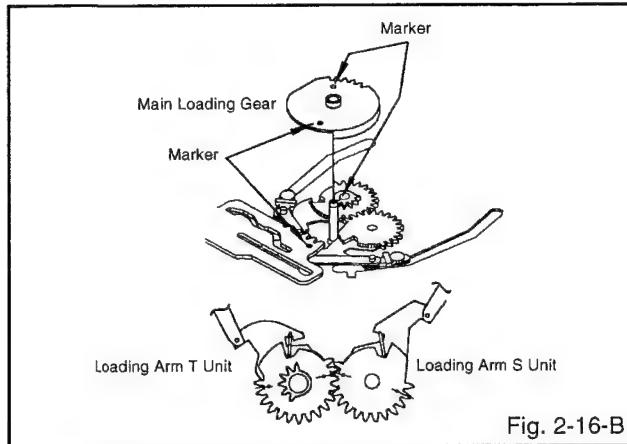

Fig. 2-16-B
2-16: LOADING GEAR S/T UNIT (Refer to Fig. 2-16-A)
- When you install the Loading Arm S Unit, Loading Arm T Unit and Main Loading Gear, align each marker. (Refer to Fig. 2-16-B)